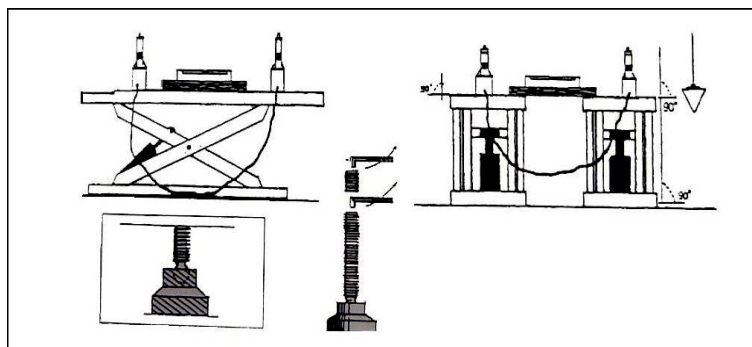

Fig 23
- Inspect that the surfaces of the left and right platforms are level laterally and longitudinally with a transparent leveling pipe or level gauge (Fig. 23).